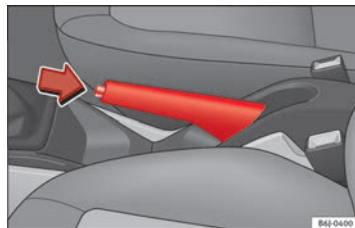

Fig. 124 Handbrake between the front seats.
- Pull the handbrake lever up firmly ⇒ Fig. 124.
- Pull the lever up slightly and press the release knob in the direction of the arrow ⇒ Fig. 124 and guide the handbrake lever down fully ⇒ ⚠.